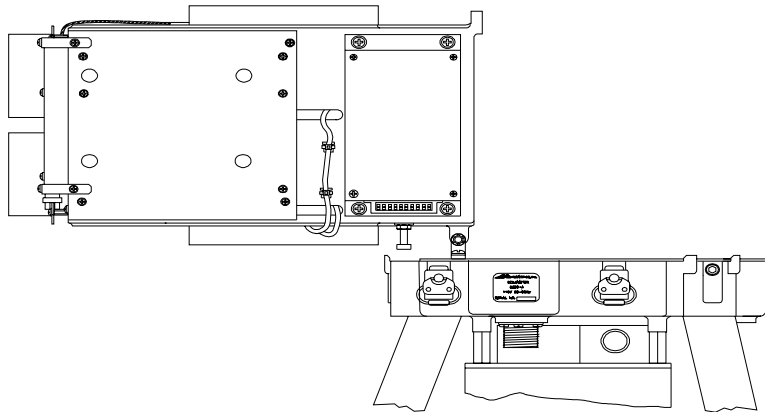

Figure 3.3
Prior to commissioning, a hard target alignment of the ceilometer must be performed. In order to do this, the ceilometer must be oriented so that it can be aimed at the selected hard target when swiveled into the horizontal position (see Figure 3.3).
- B. The ceilometer hard target should be selected so that the ceilometer electronics unit can be folded at the base. Again, refer to Figure 3.3, which shows the ceilometer in the swiveled position.